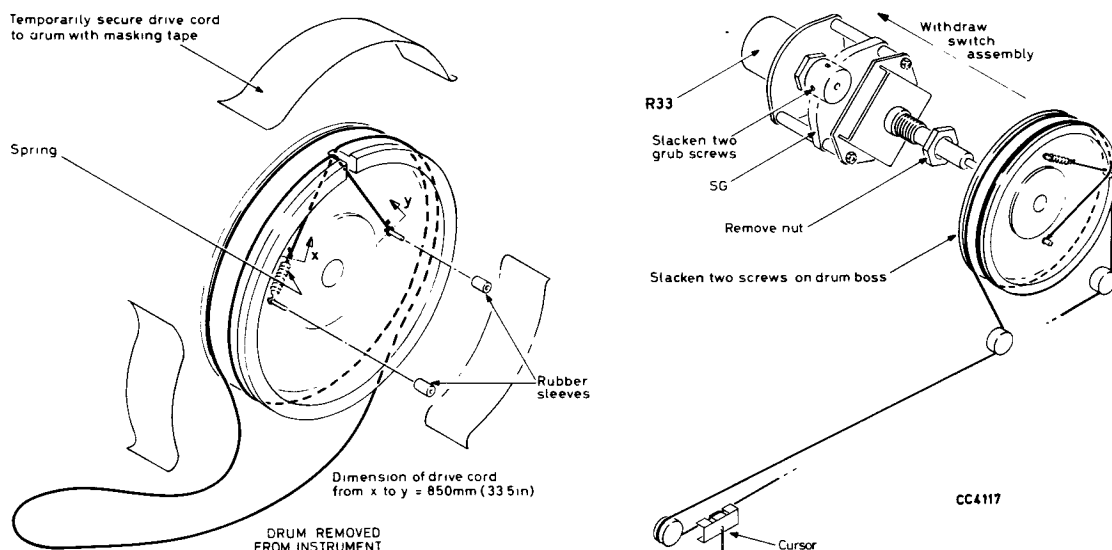

Fig. 6 Replacing drive cord.
Circuit diagram : Chap. 5, Fig. 2 (A5) and Fig. 6 (A3).
Circuit diagram : Chap. 5, Fig. 6 (A3 & A4)
- (1) Remove the case from the instrument and remove the attenuator unit (see para. 8), and the reverse power protection unit.
- (2) Remove the scale plates for the three highest frequency ranges.
- (3) Set the RANGE switch to the 22 - 48 kHz position.
- (4) Stand the instrument upside-down on the bench.
- (5) Referring to Fig. 6, slacken the grub screws and unscrew the nut to pull aside R33.
- (6) Remove the drum and attach the drive cord as shown in Fig. 6, temporarily holding it in place with adhesive tape. Seal the cord knots with bakelite varnish.
- (7) Replace the drum and completely refit the switch SG and R33 assemblies.
- (8) Fit the loop of cord around the three pulleys. Check that the cord spring is under tension. If the cord has been properly dimensioned, the expanded length of the spring will be about 12 mm ( $\frac{1}{2}$  inch). Refit the knobs.
- (9) Attach the pointer to the drive cord and adjust its position so that it reaches (or just passes) the calibration marks on the 53 MHz to 120 MHz range (range 12).
- (10) Refit scale plates, attenuator unit, reverse power protection unit and case.